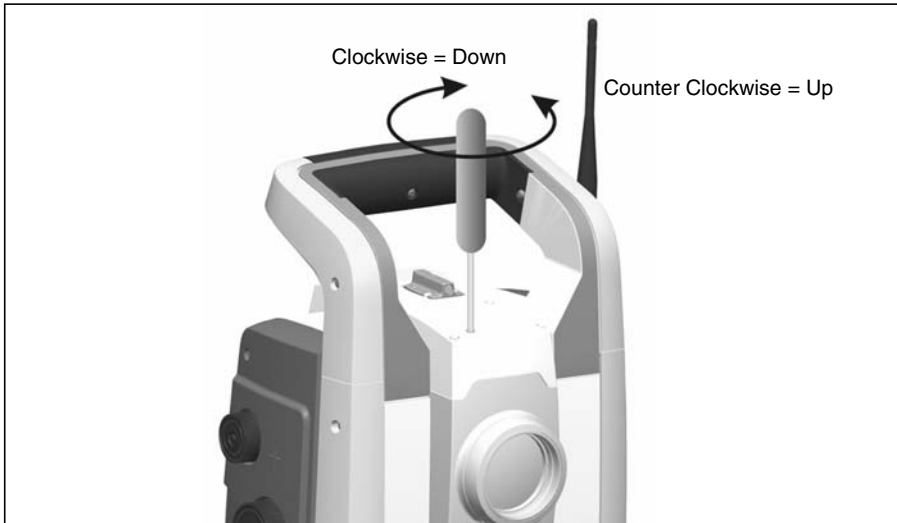

Figure 4.34 Vertical position adjustment
2. To correct the vertical position of the laser spot, insert the allen key into the vertical adjustment port and turn it as shown in figure 4.34.